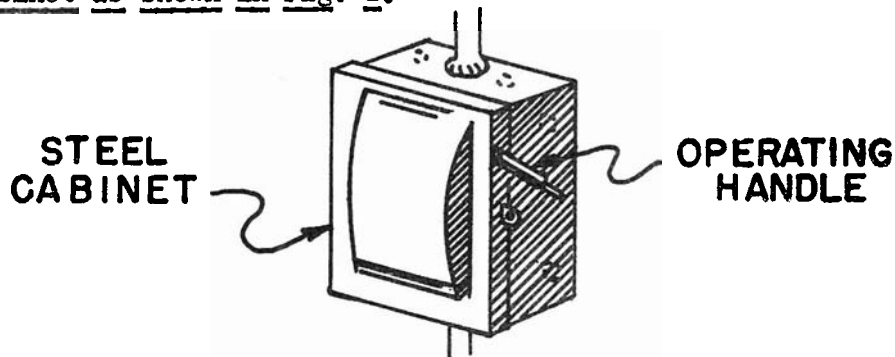

FIG. 2
- A. As used for the purposes described in this bulletin, the switch seldomly needs to be fused, but must always be enclosed in a steel cabinet as shown in Fig. 2.